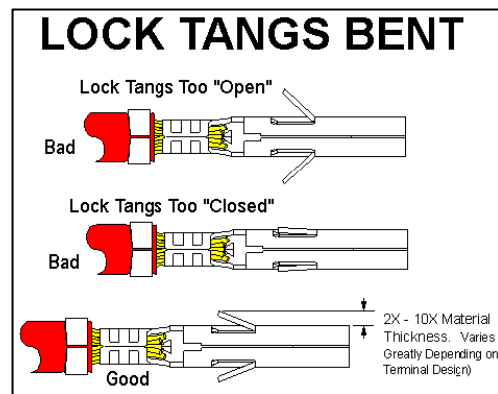

Figure 23
38. When removing terminals, lock tangs may become too closed to insure a good lock when reusing. Check all lock tangs on both terminals (Figure 23).